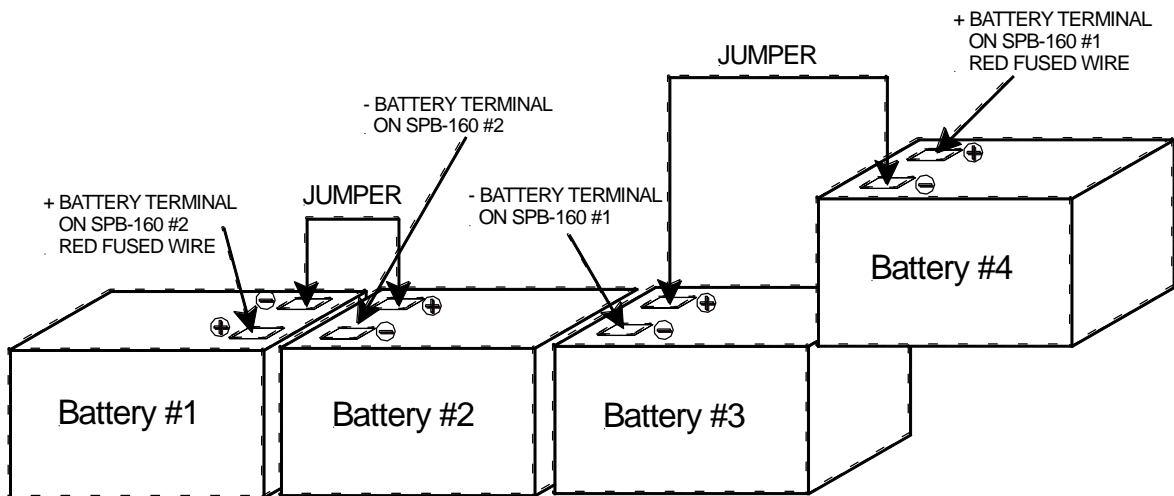

Figure 32 Battery Configuration and Wiring (SPB-320 only)
Figure 32 shows the correct setup of the batteries inside the cabinet, the location of the jumper wires used to connect two batteries in series, and the location of the battery terminal connections.
1. Orient batteries #1 and #2 so that the terminals of battery #1 are on the right side of the battery and the terminals of battery #2 are on the left (See Figure 32). Connect the short YELLOW jumper between battery #1 negative (-) terminal and battery #2 positive (+) terminal.
2. Place batteries #1 and #2 inside the SPB-320 enclosure, and to the left side with the yellow jumper to the back of the enclosure (Figure 32).
5. Attach the supplied RED fused battery wire to the (+) terminal and the supplied BLACK battery wire to the (-) terminal of TB2 (BATTERY) connection on SPB-160 Module #1 and run the wire as shown in Figure 32. Attach the red wire to the positive terminal of battery #4. Do not attach the black or negative wire.
6. Attach the second supplied fused RED battery wire to the (+) terminal and the supplied BLACK battery wire to the (-) terminal of TB2 (BATTERY) connection on SPB-160 Module #2 and run the wire as shown in Figure 32. Attach the fused RED wire to the positive terminal of battery #1. Do not attach the BLACK or negative wire.